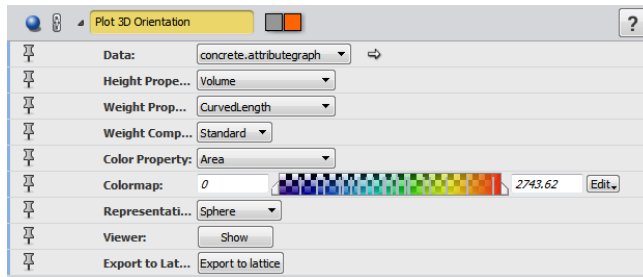

Figure 10.38: Parameter Settings of the *Plot 3D Orientation* Module
3. Set the parameters as shown in Figure 10.38.